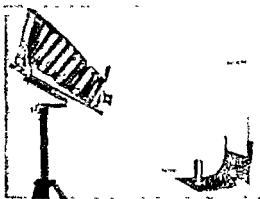

FIG. 54. CAMERA AS SET FOR 53 (D)
is done in Fig. 54, and shows the use of the drop-front in such cases. The use of a panchromatic plate in Fig. 53 (c) may be considered an improvement by giving more of the real character of the object than the previous examples. By now raising the camera and tilting it downwards, with no further adjustment than slight re-focusing (Fig. 54(A)), one obtains substantially more of the top view without noticeably throwing the sides out of parallel, a result seen in Fig. 53 (D). The introduction of a red filter brings out the grain of the object to an extent that even coarse half tone reproduction cannot entirely destroy. It should be noted also that the use of a dark ground has prevented reflection at the sides which might be detrimental if the object were blocked out or the final block cut out. The dark background however, would render the top dark also, so that the raised lettering would be almost invisible. A small sheet of white paper pinned up above the background, and seen in Fig. 54 (A), casts a reflection on the top only (see again Fig. 53 (D))